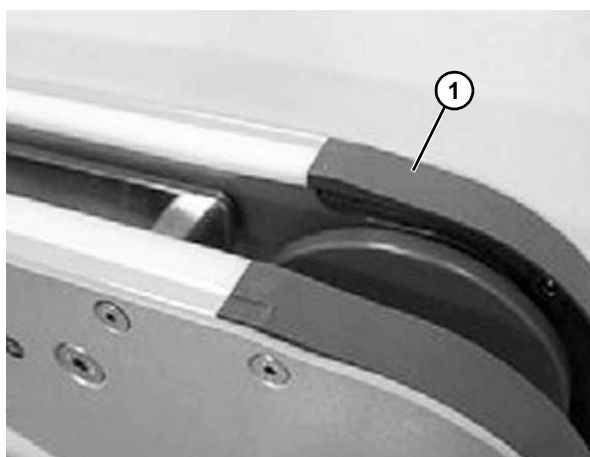

Figure 29
1. Start the slide rail assembly at an idler end unit (Figure 29, item 1). Separate the top and bottom flange of the slide rail at the end of rail and press into place.